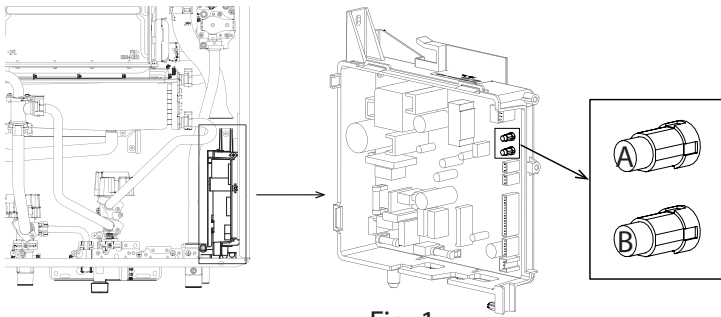

Fig. 1
3. Press **A** button for 1 second (Fig. 1).